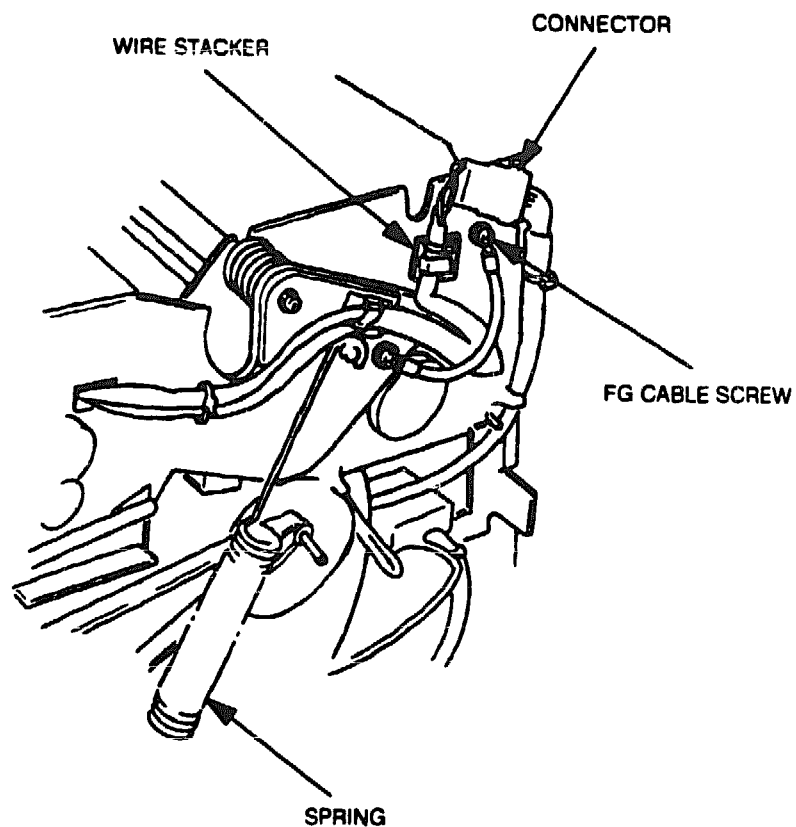

Figure 6-55 Upper Unit FG Cable, Connector, and Spring
3. Unscrew the FG cable on the right and left lower frames (see Figure 6-55).
4. Remove the paper sensor cable from the wire sticker on the lower side plate (R). Then unplug the paper sensor cable connector (see Figure 6-55).
5. Remove the spring on the left and right lower side plates (see Figure 6-55).